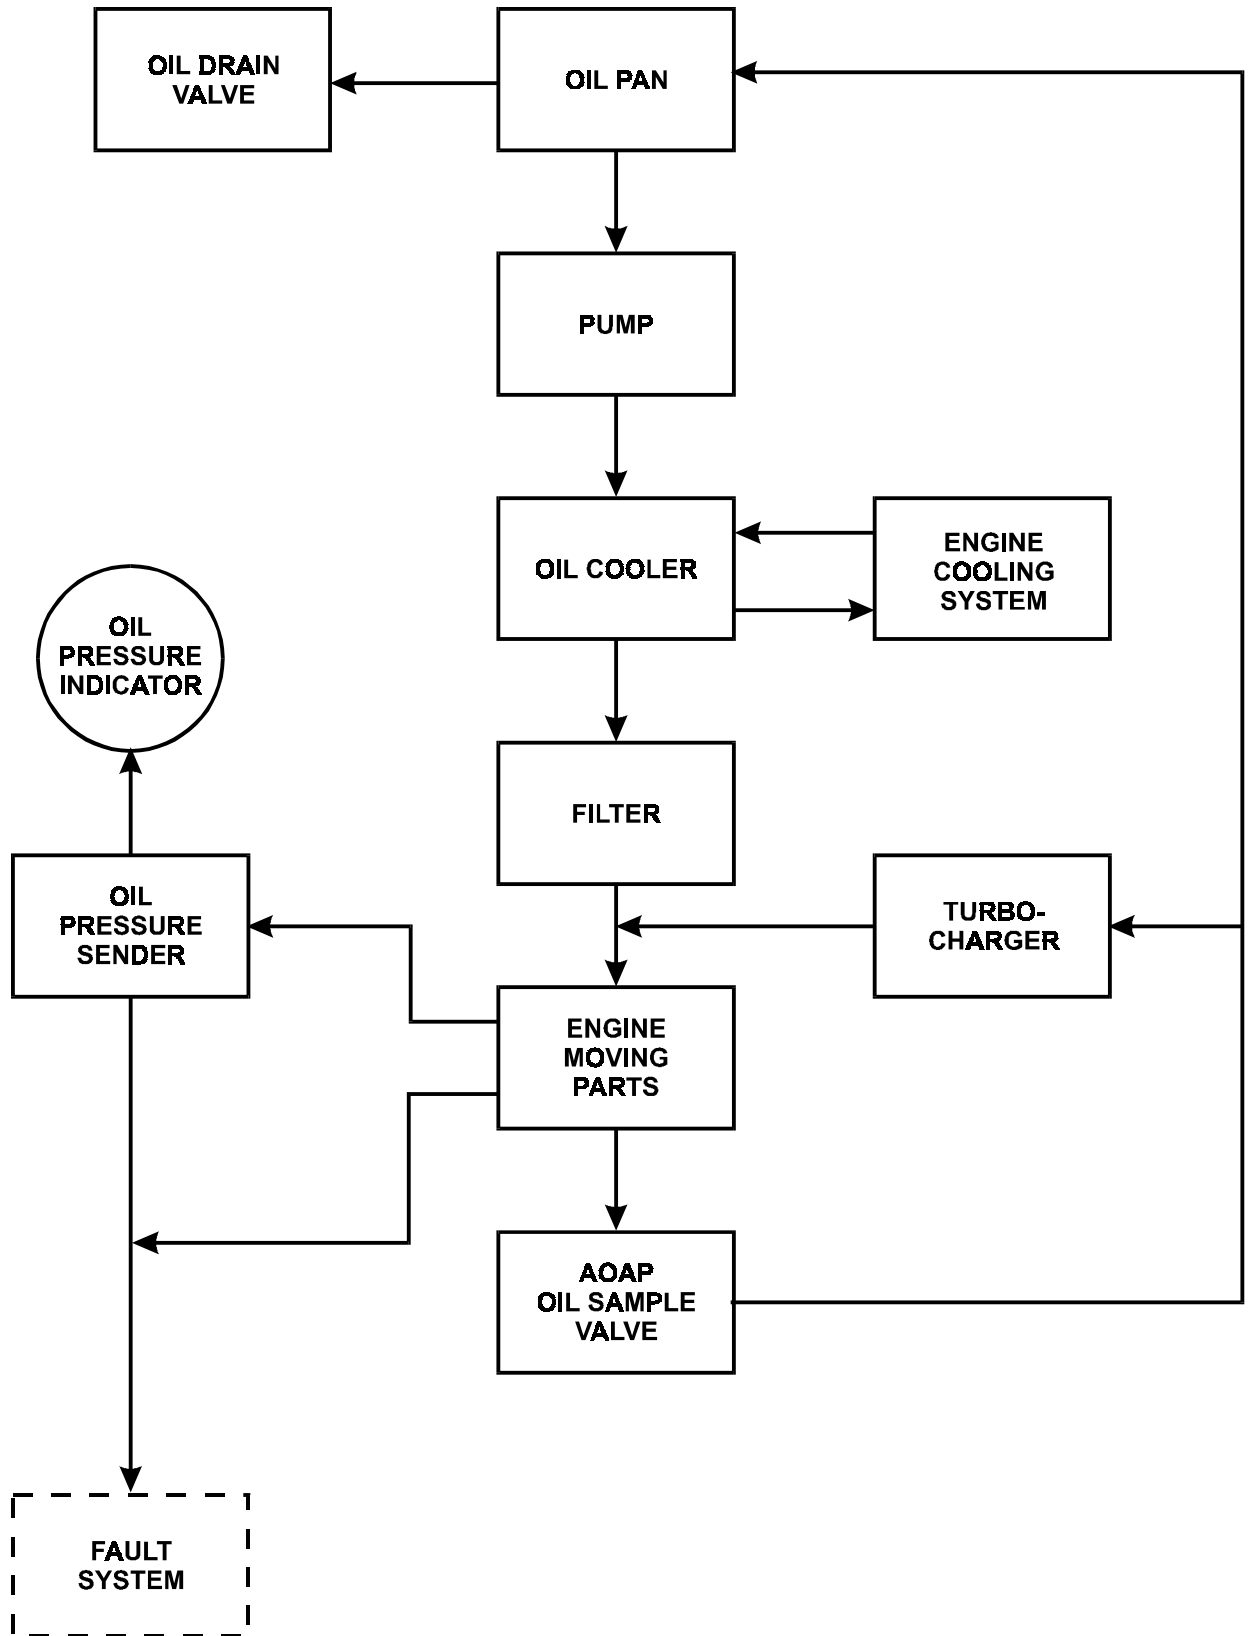

FIGURE 1-25. LUBRICATION SYSTEM FLOW DIAGRAM
1.16.9.1 The Engine Lubrication System (Figure 1-25) consists of an oil pan, dipstick, pump, oil cooler, oil sample valve, oil pressure sender, CIM display screen OIL PRESSURE indicator, oil drain valve, and filter.